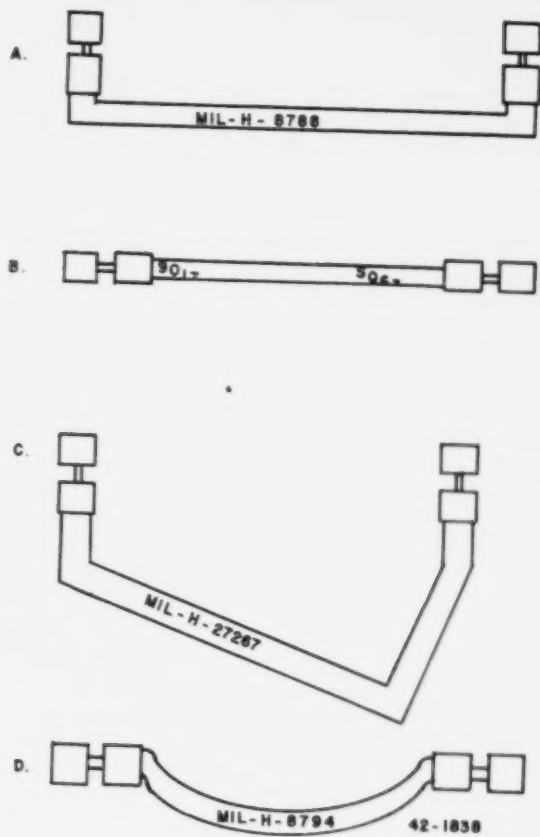

Figure 2-31. Objective 226, exercise 2.
- Using figure 2-31, select the illustrations that depict incorrect hose installation. Report your observations.